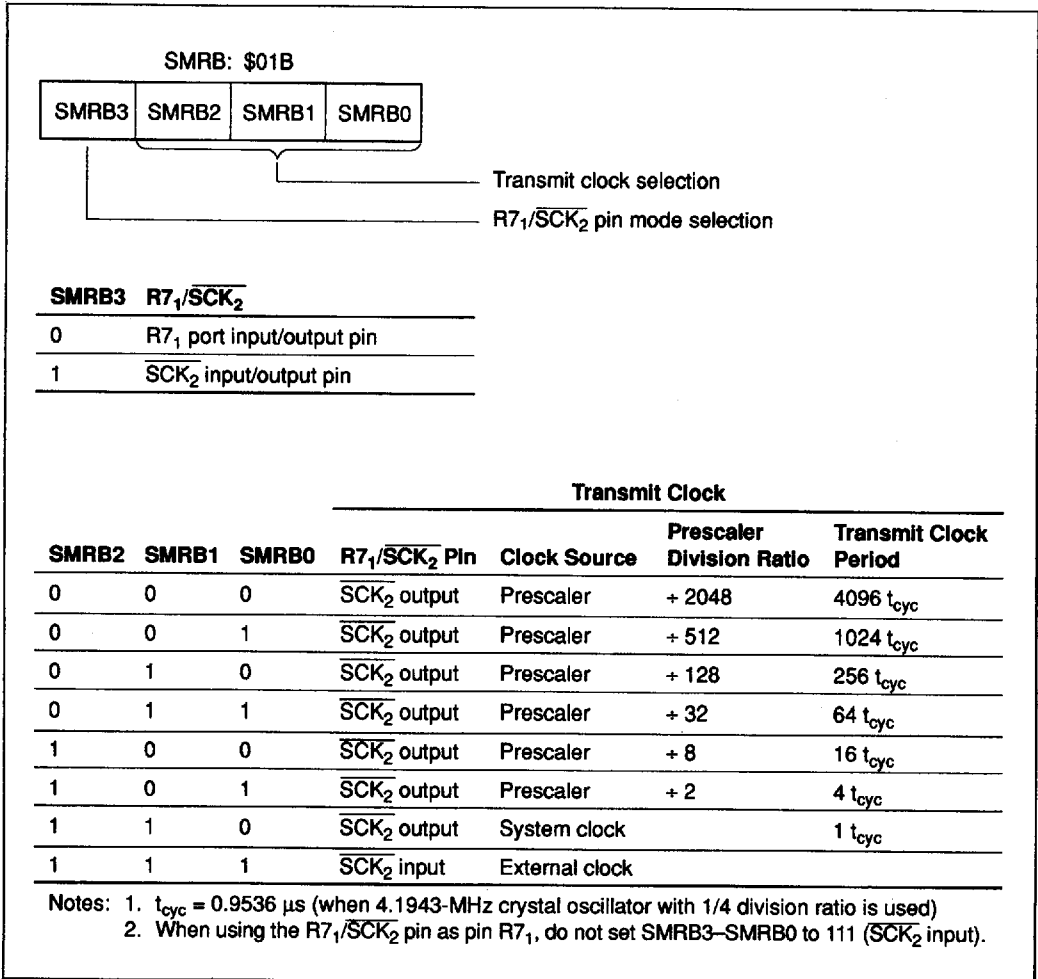

Figure 38 Serial Mode Register B
**Serial Mode Register B (SMRB: \$01B):** Four-bit write-only register which controls the R71/SCK2 pin, transmit clock, and prescaler division ratio as shown in figure 38. Writing to SMRB initializes serial interface 2.